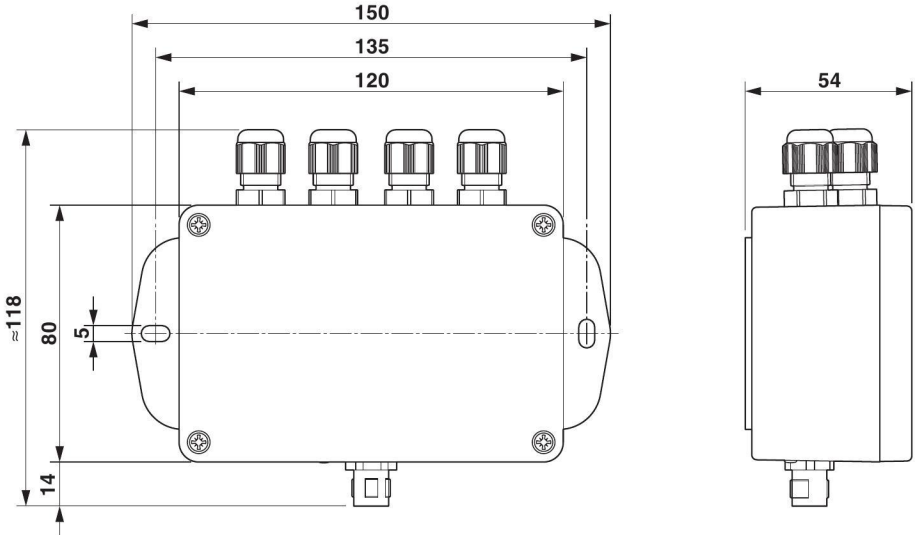

Figure 5-14 Dimensions in mm
- Refer to Figure 5-14 for the dimensions of the device and the drill hole spacing.
- Screw the module tightly down onto a flat surface using the fixing clips (1).
- Connect the cable for the IO-Link A port (4) by way of an M12 connector. Phoenix Contact recommends using the SPEEDCON fast locking system to connect M12 cables.
- Connect the cables for the TC inputs (3) by way of Push-in technology.